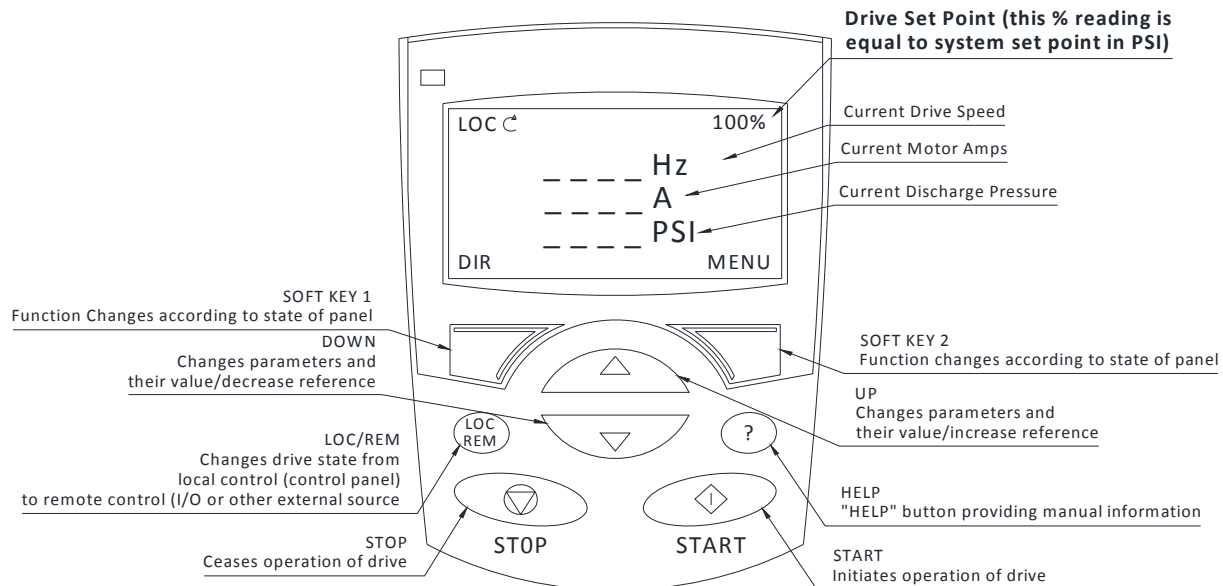
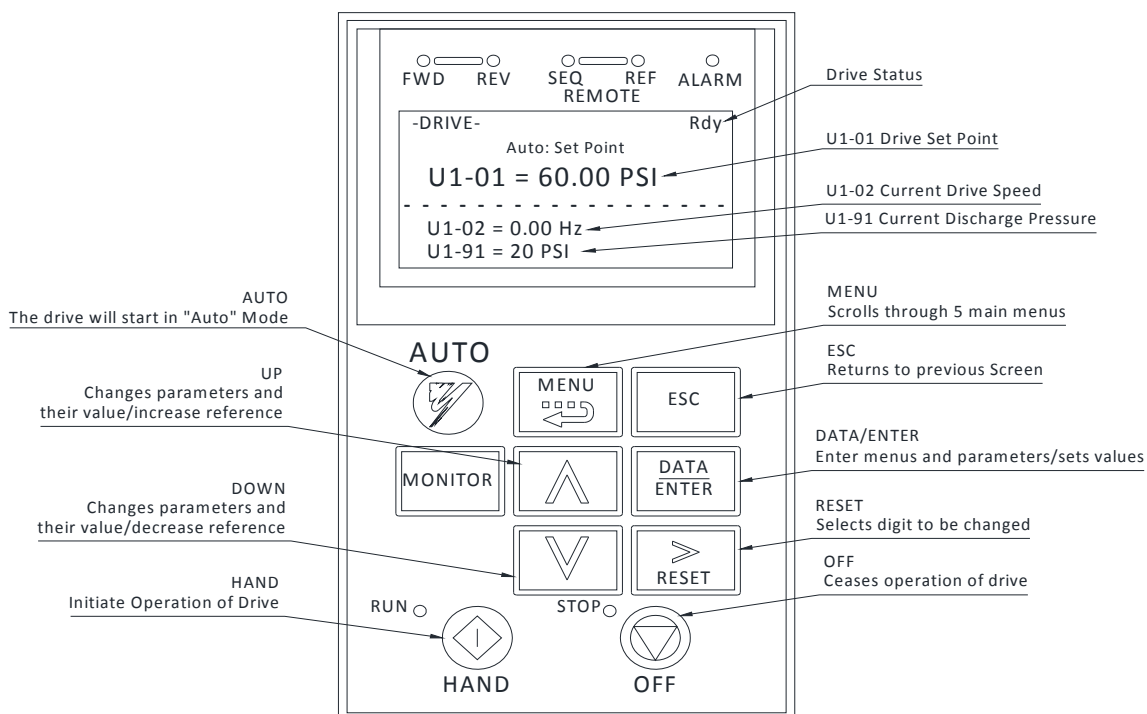

Figure 4-3-1 ABB Controller (Standard)
Figure 4-3-2 YASKAWA Controller (Optional)
The Standard *Pressurizer-VS* is equipped with an ABB Drive (Figure 4-3-1), also available is an optional Yaskawa Drive (Figure 4-3-2). Displays and controls for each controller are described below.
9. To adjust the discharge set pressure, press the Up or Down arrow (Figure 4-3-1 or 4-3-2) on the VFD controller until desired discharge set pressure is achieved. This is labeled “Drive Set Point” on the VFD controller. See Figure 4-4 for capabilities of each *Pressurizer-VS*.